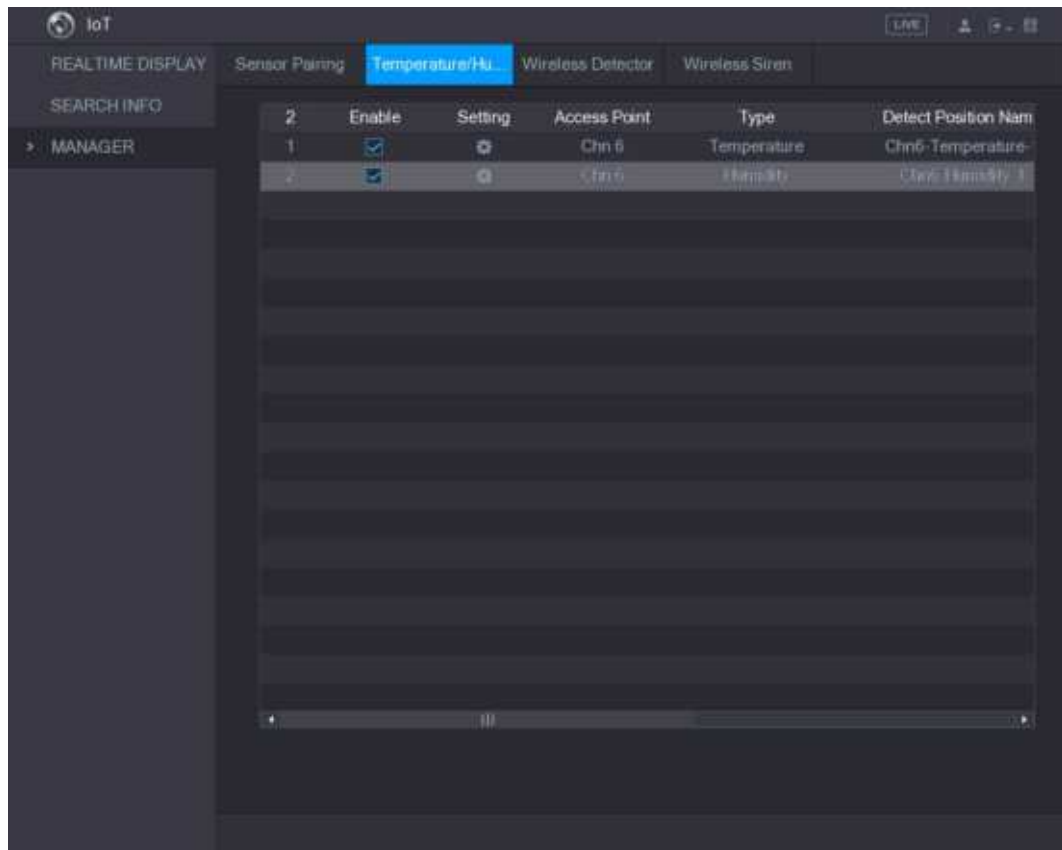

Figure 5-199
Step 2 Select the **Enable** check boxes to enable IoT function. See Figure 5-199.